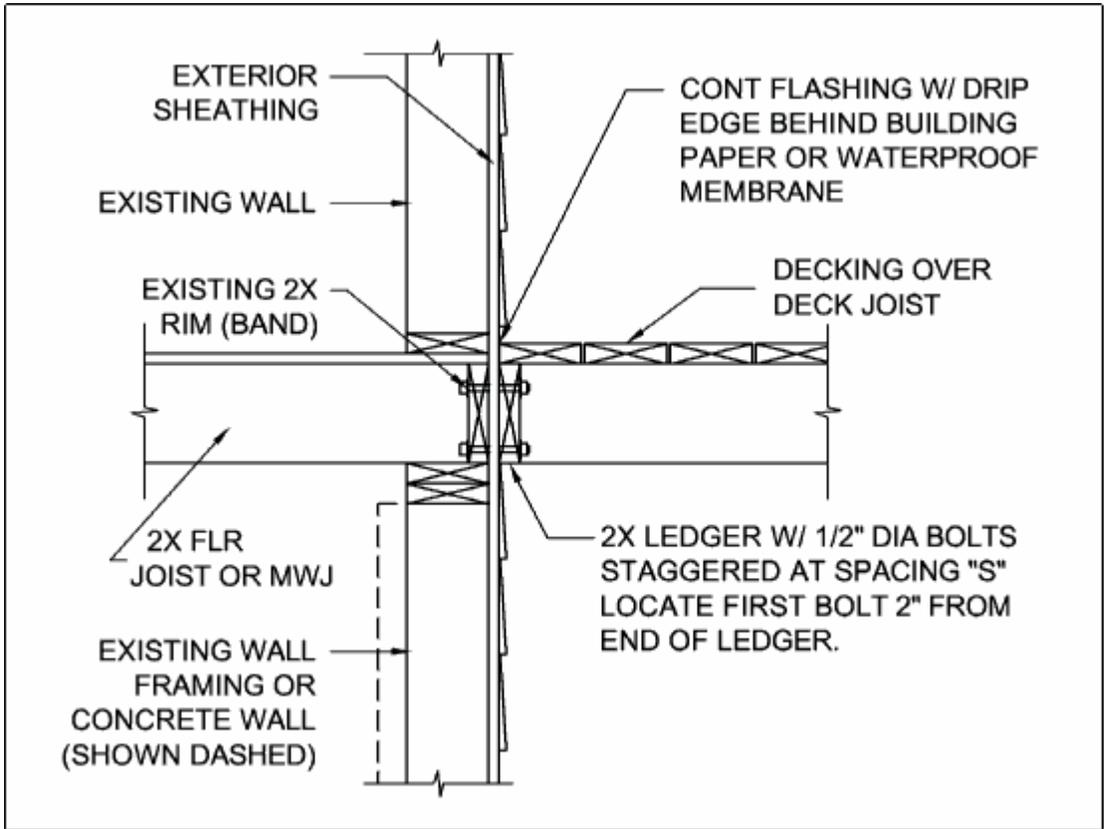
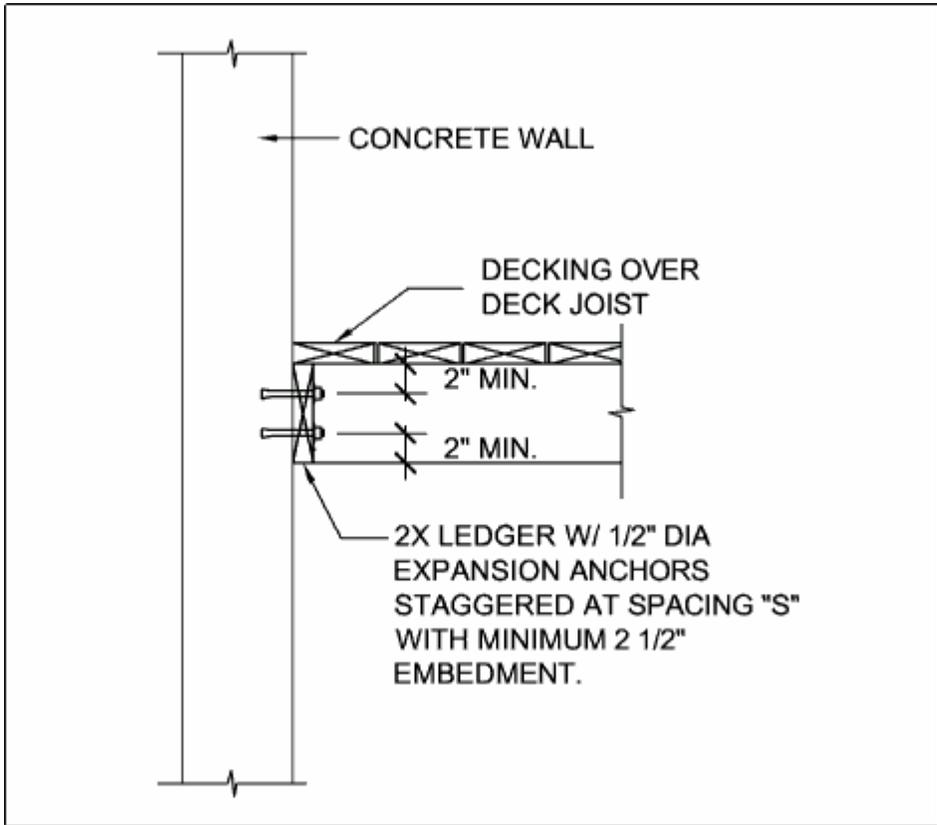

Figure 6 – Attachment of Ledger Board to Band Board with Bolts.
Figure 7 – Attachment of Ledger Board to Concrete Wall.
- 7. Determine if you will be connecting to a band board (rim joist), see Figure 5; a concrete wall, see Figure 6; or a sill plate, see Figure 7. Note: This document cannot be used with masonry walls.
**Expansion (Wedge) Anchors:** Use expansion anchors when attaching a ledger board to a concrete wall as shown in Figure 7. Bolt diameters of the anchors shall be a minimum of  $\frac{1}{2}$ "; in some cases, this may require an anchor size of  $\frac{5}{8}$ ". Minimum embedment length shall be  $2\frac{1}{2}$ ". Expansion anchors must have washers.